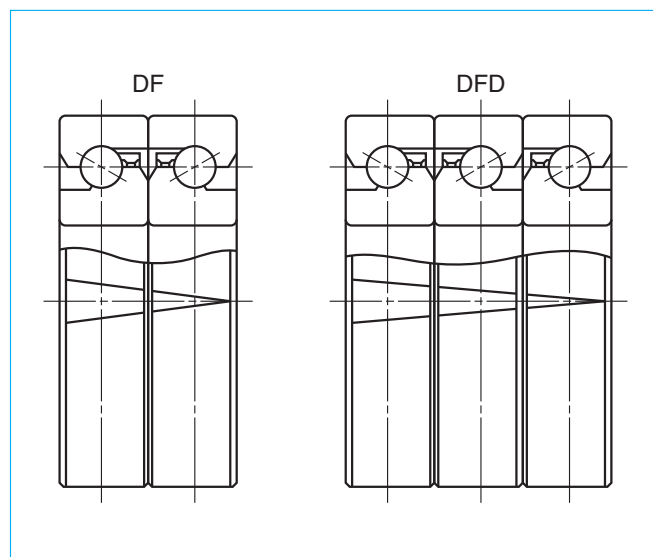

Fig. 2 Examples of combination and "V" mark
- Fig. 2 shows examples of combinations. There is "V" mark on the outside surface of the bearing to avoid misarrangement. A complete letter "V" should be formed when all bearings align correctly to form a set.